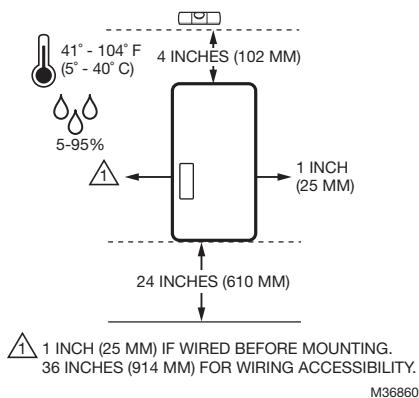

Fig. 1. Recommended clearances.
- The humidifier must be level and mounted vertically to 2x4 stud or supply duct. Allow minimum clearances shown in Fig. 1.